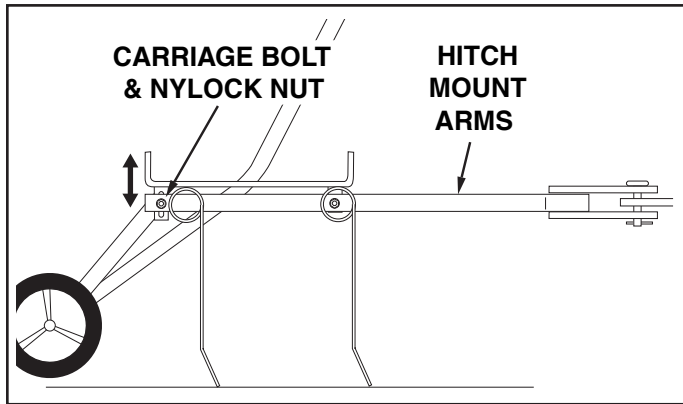

FIGURE 7
- Move the towing vehicle onto a level surface, such as a driveway or garage floor and attach the tine dethatcher to the vehicle hitch. See figure 7.
- Lower the dethatcher into operating position using the lift handle. Loosen the two nylock nuts and carriage bolts which fasten the hitch mount arms to the hitch arm mount brackets at the rear of the tine shield. Adjust the tine shield until it is level and both the front and rear spring tines are in contact with the ground. Retighten the hex nuts. See figure 7.